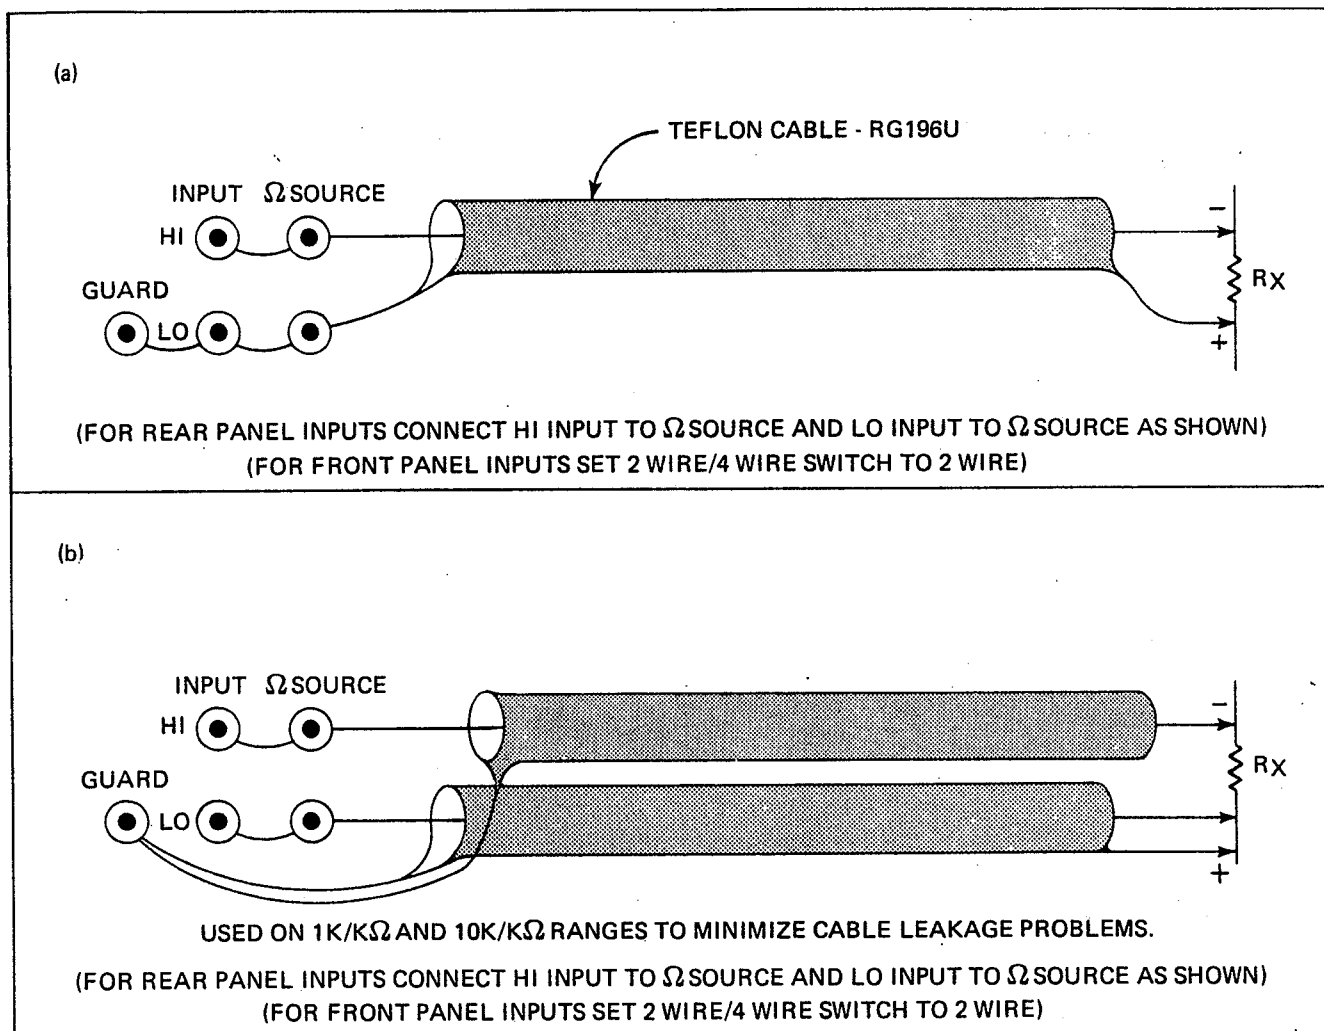

Figure 3.5 - Two Wire Ohms Measurements
3.4.5.3 Two-Wire measurements through the Front or Rear Panel INPUT terminals are connected as shown in Figure 3.5A and 3.5B using Teflon shielded cable as indicated. The Two-Wire/Four-Wire switch on the front panel, No. 30 on Figure 3.1, is placed in the two-wire position, this automatically connects the Ohms Source terminals to the Voltage Input (sense) terminals. When rear terminal input is used, a jumper is required between the Ohms Source terminal and the HI Input, then another jumper is required between the other Ohms Source terminal and the LO Input terminal. These connections and the GUARD connection to LO input are shown on Figure 3.5. When performing polarity sensitive resistance